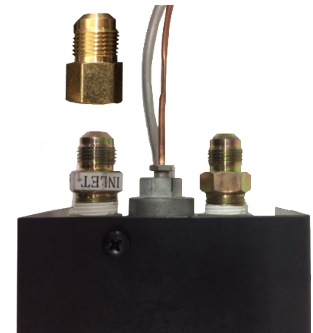

Fig. 1 Adapter installation.
INSTALLER: Each valve kit is supplied with a (UR3-68) adapter that provides an option to convert the inlet or outlet gas connection from 3/8" to a 1/2" flared fitting. Simply thread the UR3-68 on to the inlet/outlet gas flared fitting as shown in Fig. 1. **Note:** No pipe joint compound or thread tape is necessary. Ensure fittings are tight and test for gas leaks.
8. Bend inlet gas supply line and connect the 3/8" flare fitting to gas valve 3/8" inlet connector (Use caution not to kink the line when bending). **Note:** Use the UR3-6 adapter to convert to 1/2" fitting if applicable to installation. See Fig. 1.